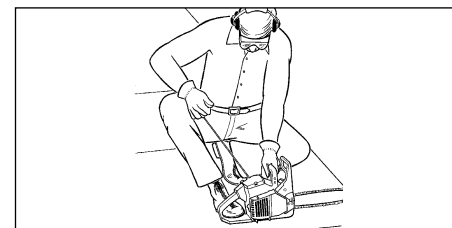

Fig. 9D
4. Place saw on a firm, flat surface. Hold saw firmly as shown. Pull starter rapidly 4 times. Beware of moving chain. (Fig. 9D)